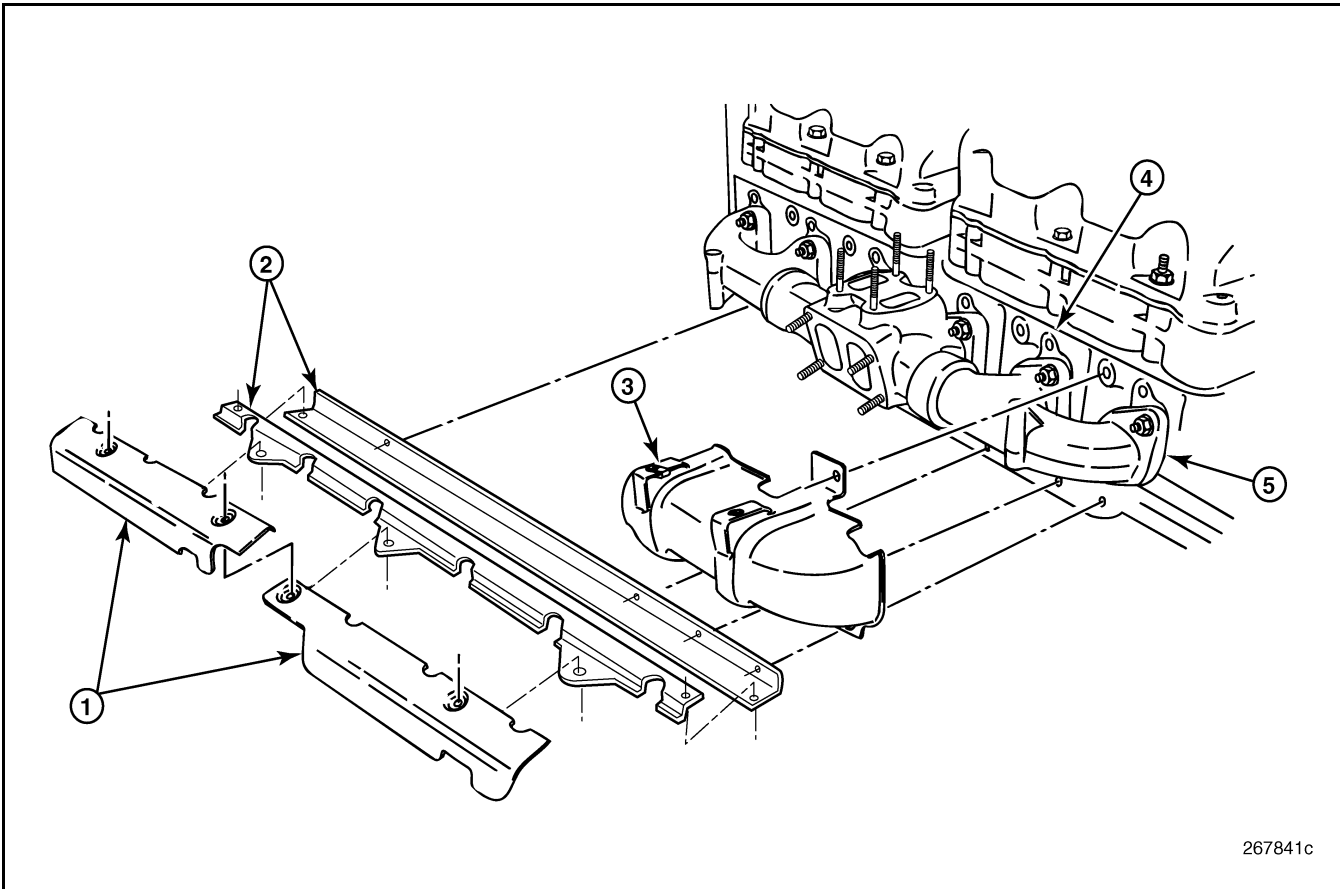

Figure 401 — EGR and EUP Heat Shield Installation
1. Place the EGR heat shield in position over the front section of the exhaust manifold (Figure 401). Install the top capscrew attaching the shield to the cylinder block and tighten it to specification. DO NOT install the bottom capscrews at this time.